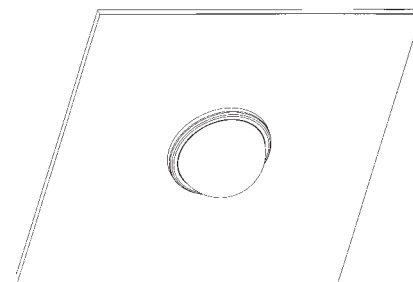

Figure 6
- Attach the dome/trim ring by lining up the dots on the box and the trim ring. Push on one side of the trim ring near the flat section of the box, then push on the other side of the trim ring until it snaps into place. Listen for a distinct click to ensure ring is securely in place. See **Figure 6**.